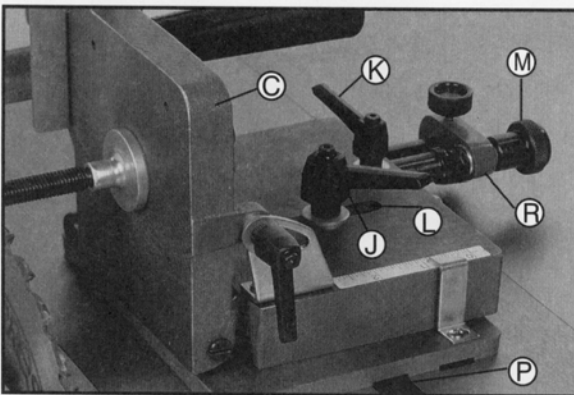

FIGURE 8
5. Loosen two lock levers (J) and (K). figure 8 and move jig (L). until vertical work support plate (C) is against saw blade and tighten lever (J).
6. Check to see if the vertical work support plate. (C) figure 8 is parallel with the saw blade.
7. If an adjustment is necessary, loosen lever (J). figure 8 and rotate knob (M). clockwise as far as possible to align holes (N) with guide bar (P) and gain access to set screws from underneath the jig. Loosen two screws inside holes (N) and move jig (L) until vertical work support plate (C) is parallel with the saw blade then tighten the two screws inside holes (N).
8. Move jig (L) figure 8. 1/8" away from blade so vertical work support plate (C) clears saw blade tighten lever (J).
9. Rotate knob (M). figure 8 . counterclockwise until collar (R) is halfway between knob (M) and side of jig (L) tighten lever (K).